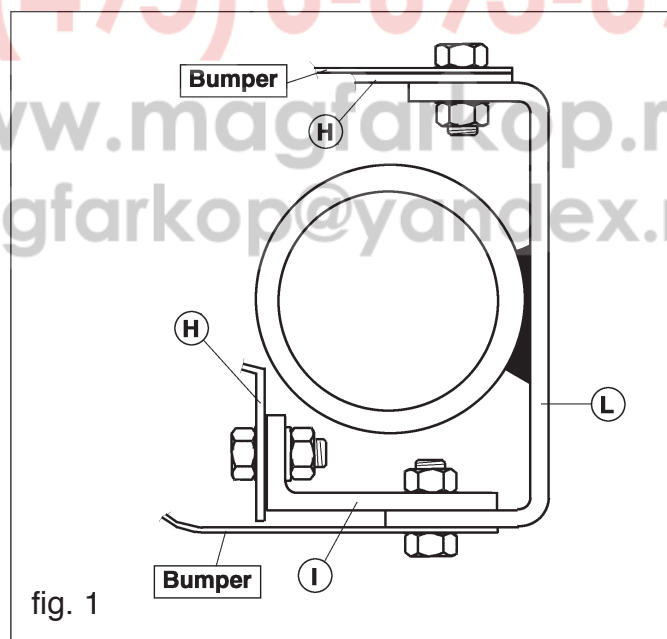

fig. 1
2. Remove the lip at the centre of the bumper's top side. Attach bracket I at hole K to the bumper frame H with two M8x25 bolts, spring washers and nuts. Attach the tow bar with part H to the bumper - see fig.1 - and attach this at points G with the four M6 nuts *already there* and the self-locking nuts that are supplied.